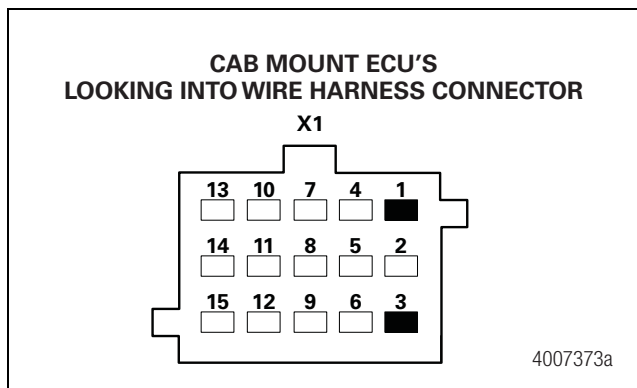
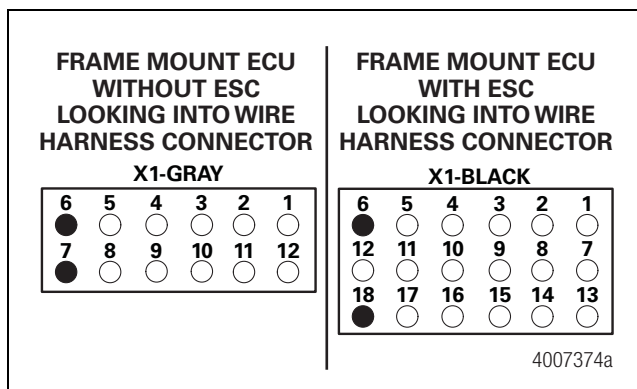
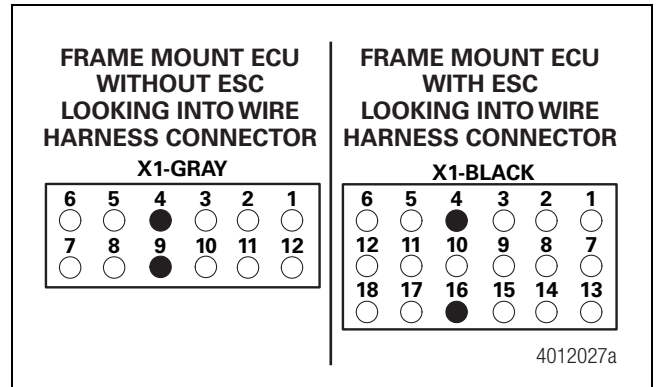
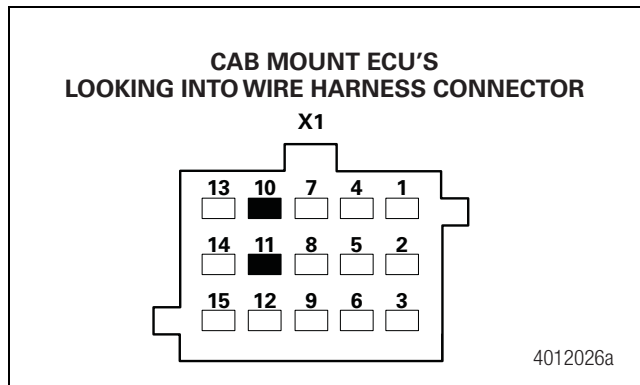

Figure 3.46
Figure 3.47
Figure 3.49
Figure 3.48
- For resistance measurements, the vehicle battery must be disconnected and the ignition must be OFF. Figure 3.46, Figure 3.47, Figure 3.48 and Figure 3.49.